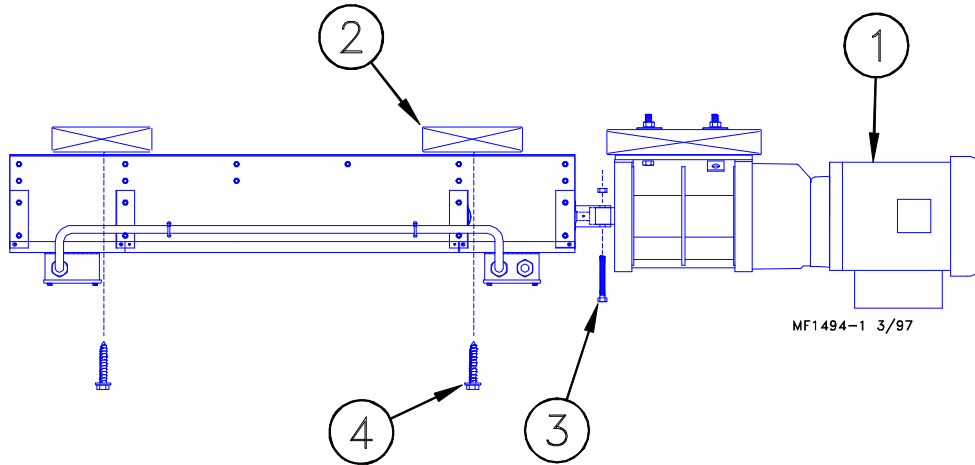

Figure 1. Limit Switch Mounting.
3. Mount limit switch assembly to ceiling using (4) 1/4" lag screws provided and attach to the output shaft of Multi-Lift™ using 5/16-18 x 2.50" bolt and 5/16-18 nut. **See Figure 1.**